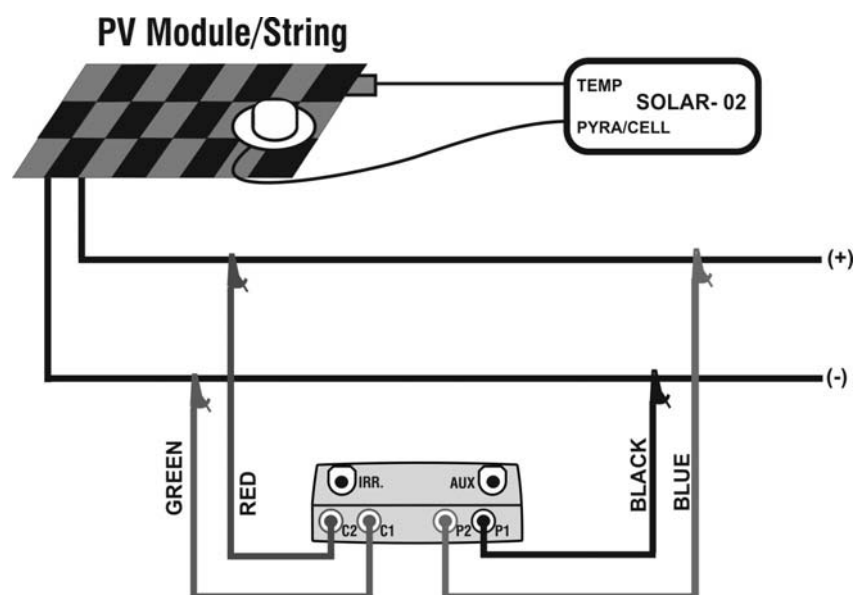

Fig.9: Connection of units to the PV module/string
21. Connect the meter to the module/string under test as shown in Fig.9. In particular, connect the negative output pole of module/string to P1, C1 input terminals and the positive output pole of module/string to P2, C2 input terminals